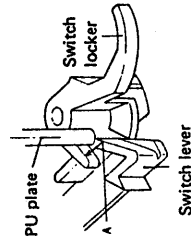
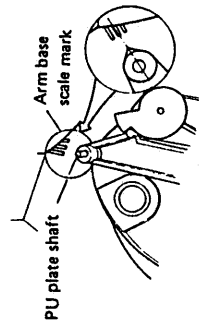

Fig. 4-3 Adjustment of switch locker
Fig. 4-4 Adjustment PU plate
In order to turn the power OFF, the PU plate shaft touches surface (A) of the switch locker pushing it over so it locks with the switch lever turning the microswitch OFF (Fig. 4-3). If the amount of push on the switch locker is insufficient, it can not lock with the switch lever. With the tonearm locked in the arm rest, as shown in figure 4-4, attach the PU plate precisely midway between the first and second points from the arm base scale mark counting away from you.